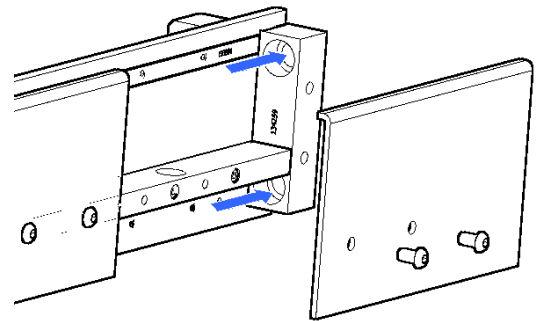

Fig. 2
2. Transfer punch two holes on your side frame for each end of the DMS block mount assembly (Fig 2).